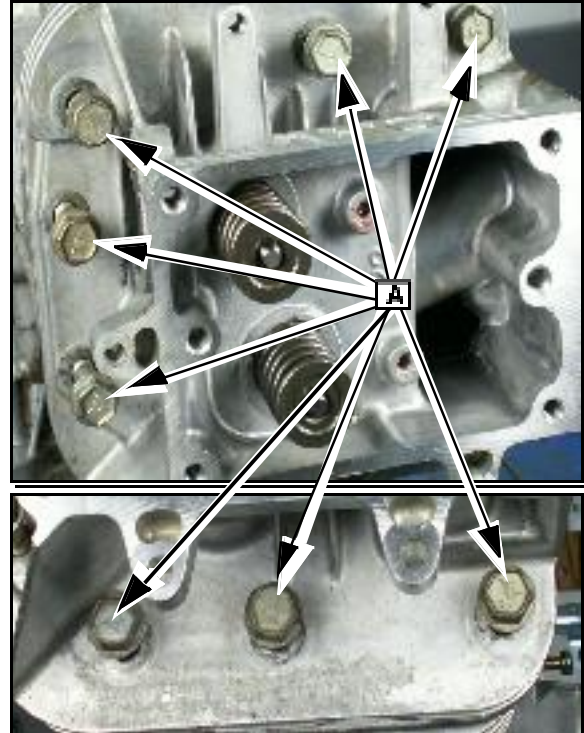

Fig. 8
1. Remove head bolts ([A] Fig.8) and cylinder head.